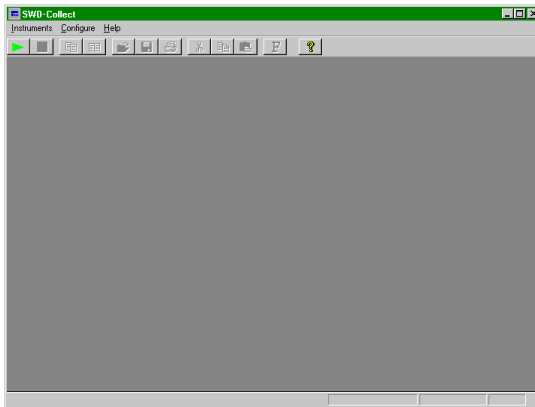
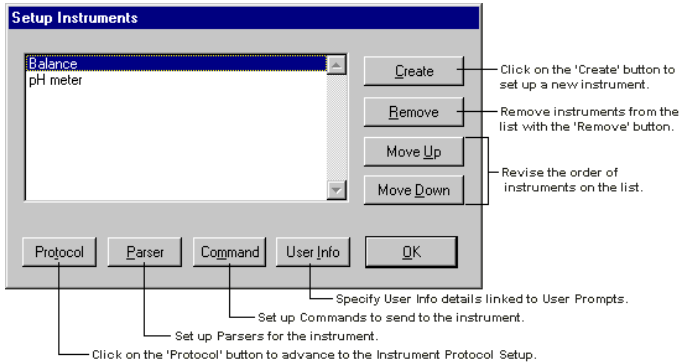

Figure 3.1: SWD-Collect ‘main screen’ - Access to the program’s features
Figure 3.2: Setup Instruments dialog box
Upon entering the program you will see the main **SWD-Collect** screen, shown in Figure 3.1.
2. Select the **Instrument** sub-menu item. The [Setup Instruments] dialog box will appear, similar to the sample shown in Figure 3.2.
Once the [Instrument Protocol Setup] dialog box has been completed, click on the '**OK**' button to save the configuration, or click on **Cancel** to proceed without saving the setup. Selecting **OK** will return the [Setup Instruments] dialog box (see Figure 3.2, Page 20), with the name of the created instrument listed and highlighted.
6. When you have finished entering the command(s) for the instrument, click on the **'OK'** button to save the details, or click on **Cancel** to leave the dialog box without saving any changes. You will return to the [Setup Instruments] dialog box (see Figure 3.2, Page 20).
At the bottom right of the [Setup Instruments] dialog box (see Figure 3.2, Page 20) , click on the ‘OK’ button to return to the main **SWD-Collect** window (see Figure 3.1, Page 19).